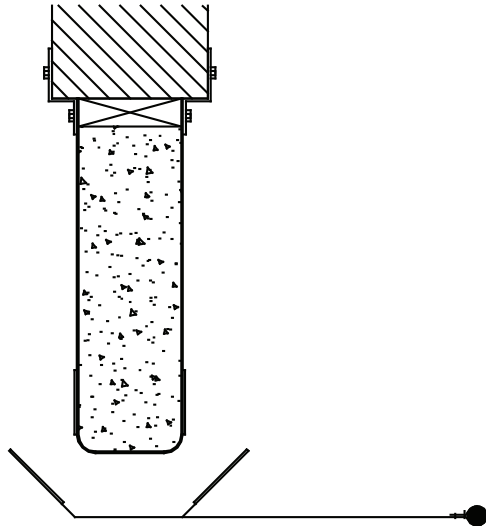

FIGURE 2
2. Make sure that the velcro flap on the outside of the side curtain completely covers the velcro on the side frame. (See Figure 2)